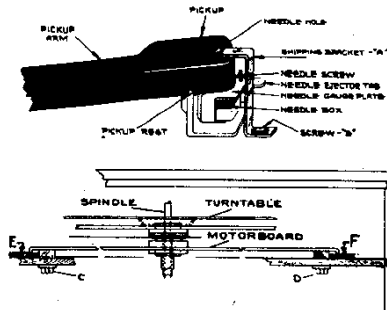

Figure 1 - Unpacking
**PREPARING FOR OPERATION** - Remove the bracket "A" securing the pickup and needle mechanism. This bracket is shown in place in Figure 1. It is held to the motorboard by means of a screw "B". Remove the screw, lift off the bracket and replace screw in motorboard to cover hole. Then remove red bolts "C" and "D" which hold the motorboard secure during shipment. These are also shown in Figure 1. When these bolts are removed it will allow the wood strips to be taken out. "E" and "F".
**TO OPERATE THE PHONOGRAPH:** To play records, set the radio Power switch to the "ON" position. With the Index Lever at Manual and the pickup resting on the support over the needle gauge plate, arm in groove, loosen the needle screw and drop a needle, point first, through the needle hole in the pickup. (See Figures 1 and 6). The needle will be stopped in the right position by the needle gauge plate. Press gently on top of pickup to seat it squarely on the gauge plate. Then tighten the needle screw with your fingers.
2. Make sure the pickup arm is resting in its groove with pickup over used needle box. See Figures 1 and 6.